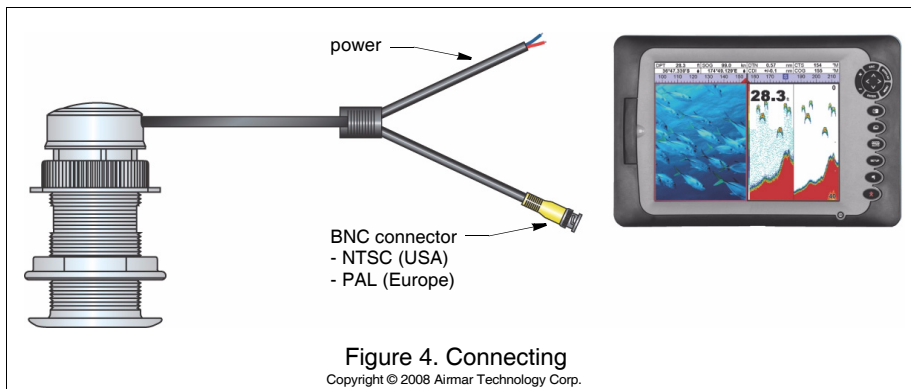

Figure 4. Connecting
2. Connect the camera to the display at the video input port (see Figure 4). The camera has a BNC connector. Some installations will need an adaptor plug to connect to the display. These are available at audio/visual stores.